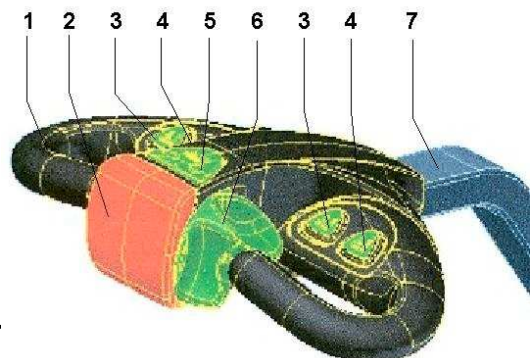

Fig. 2
- check the jam safety on the steering handle by pressing the safety switch (2, fig. 2), the Multi-Mover XL+ should not start in that case.
Steering handle (Tiller head) (fig. 2)